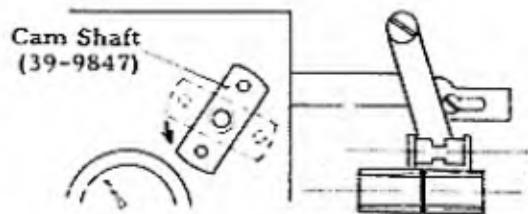

Fig. 15
1) Set Cam Shaft 39-9847 to the Disolving Shutter side. See Fig. 15.